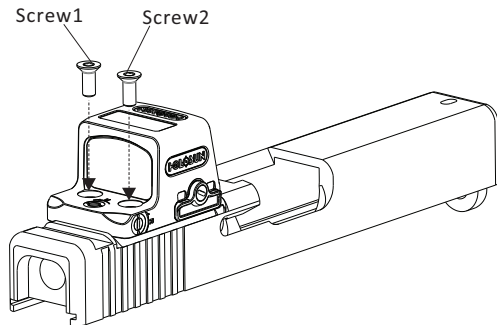

Fig 4
2. Use either the included screws or screws supplied with your slide or from your gunsmith and tighten to 15 INCH/lbs using a non-permanent (medium/blue) thread locker. (Fig4)